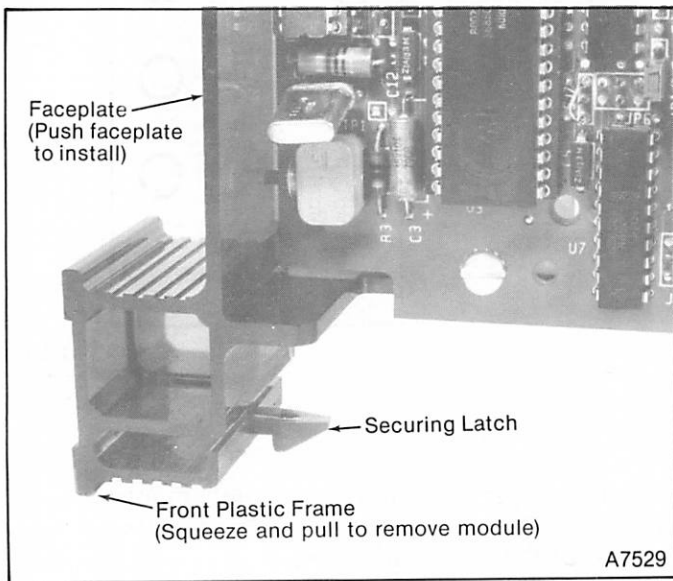

FIGURE 17 — Installing and/or Removing the DSM05.
**Installing the DSM05 Printed Circuit Card.** The DSM05 fits any slot on the MMU. Electrically, the module should be in a slot where its expander bus interface connects to the MMU expander bus. All electrical connections for the module go through a 12-strap dipshunt that is inserted onto the back of the MMU backplane. The module slides into the plastic guides that line each slot. A latch on the bottom of the faceplate "clicks" into the frame of the MMU when the module is fully inserted. The top and bottom of the faceplate should then be flush with the MMU. To remove the module, squeeze the "front plastic frame." This lifts the securing latch from the frame of the MMU and allows the user to slide the module out (see Figure 17).